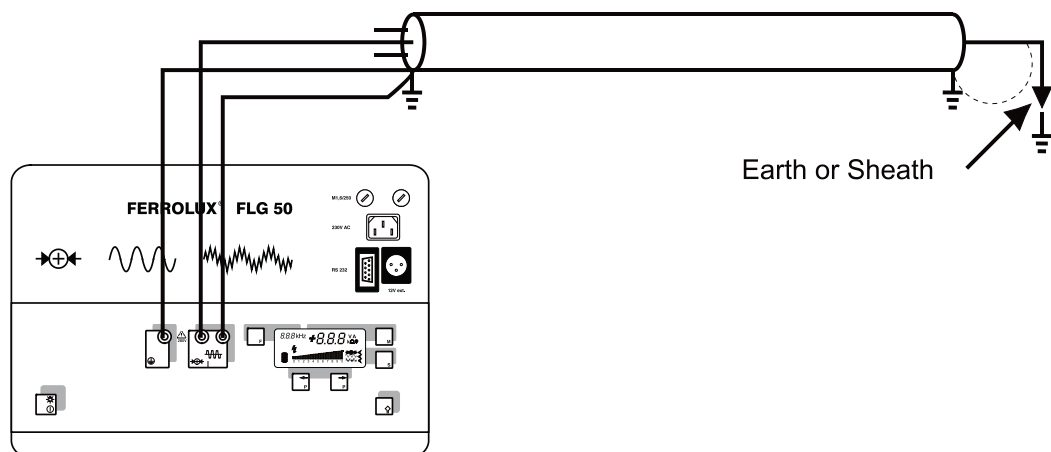

Figure 5 : Cable Localization with Direct Coupling
1. Connect one of the generator output sockets to one of the de-energized conductors of the tested cable by means of a short connecting lead. Connect the other socket to ground or the cable shield. Make sure that at the far end the conductor connected to the generator is connected to ground or the cable shield (see Figure 5).